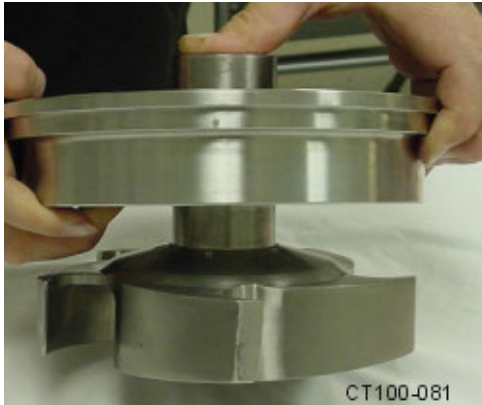

Figure 37 - Move Rotary Seal Up Shaft
13. Use the backplate to slide the rotary seal up the impeller shaft approximately 1-1/2 inches (Figure 37).